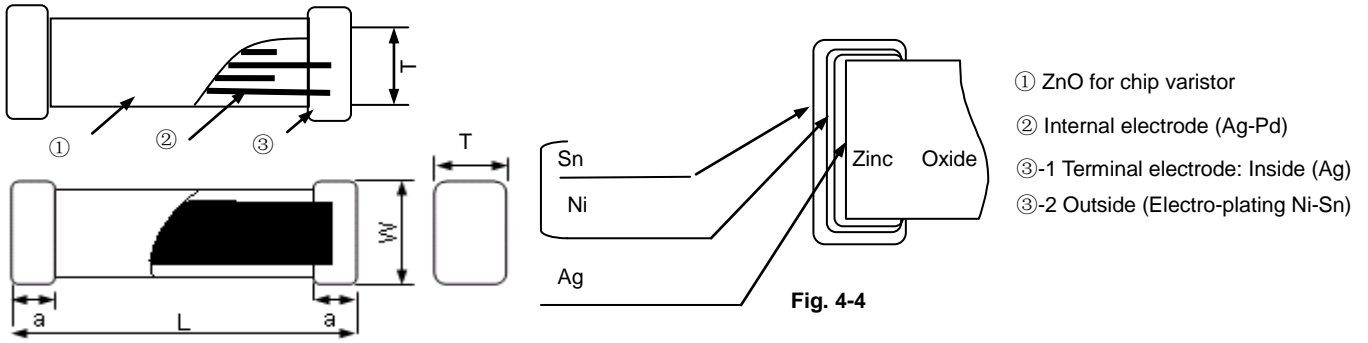

Fig. 4-3
- 2) Structure: See Fig. 4-3 and Fig. 4-4.